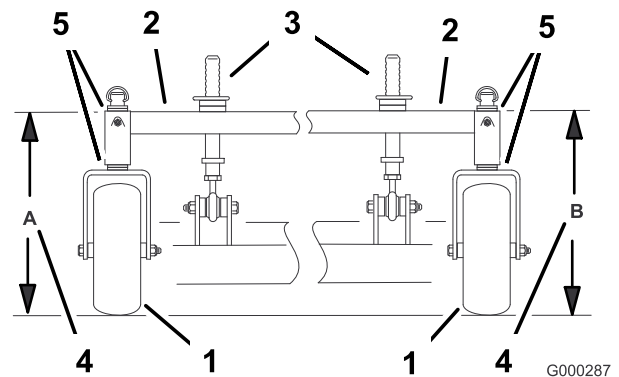

Figure 65
4. Measure carrier frame height at location A (Figure 65).
5. Measure carrier frame height at location B (Figure 65).